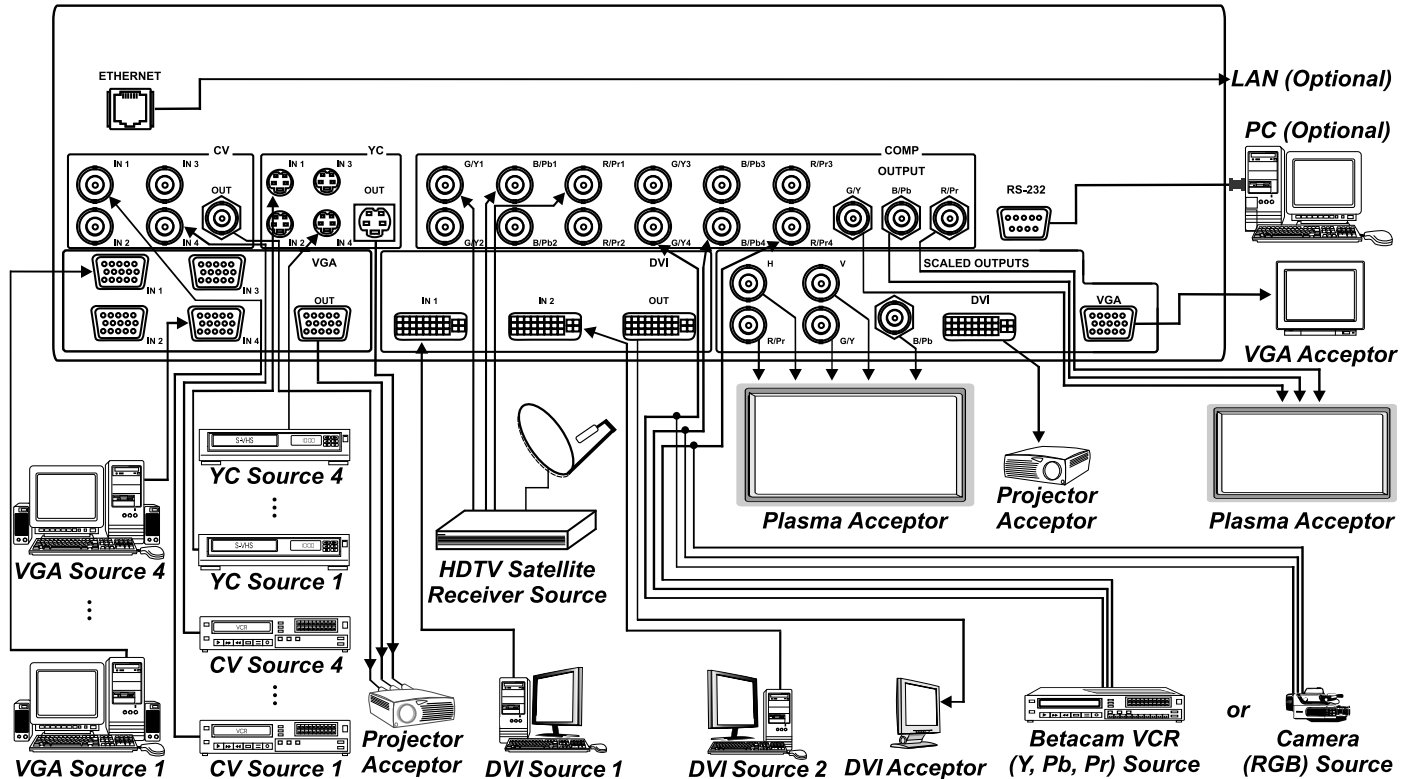

Figure 2: Connecting the VP-725DS Presentation Switcher / Scaler
To connect the **VP-725DS**, connect the following¹ to the rear panel, as the example in Figure 2 illustrates:
5. Connect the power cord¹ (not illustrated in Figure 2).